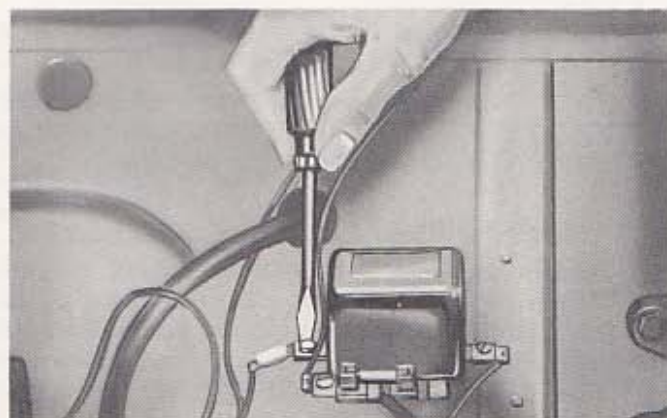

Fig. 24 Checking Overdrive Circuit—Relay
- 1-3. Check for power at the solenoid terminal of the overdrive relay Fig. 24. Connect a jumper wire to the kickdown switch terminal on the relay and momentarily ground the other end of the jumper wire. If the relay does not click or if there is no power, the relay is defective. If the relay clicks each time the jumper wire is grounded, go to Test 1-4.